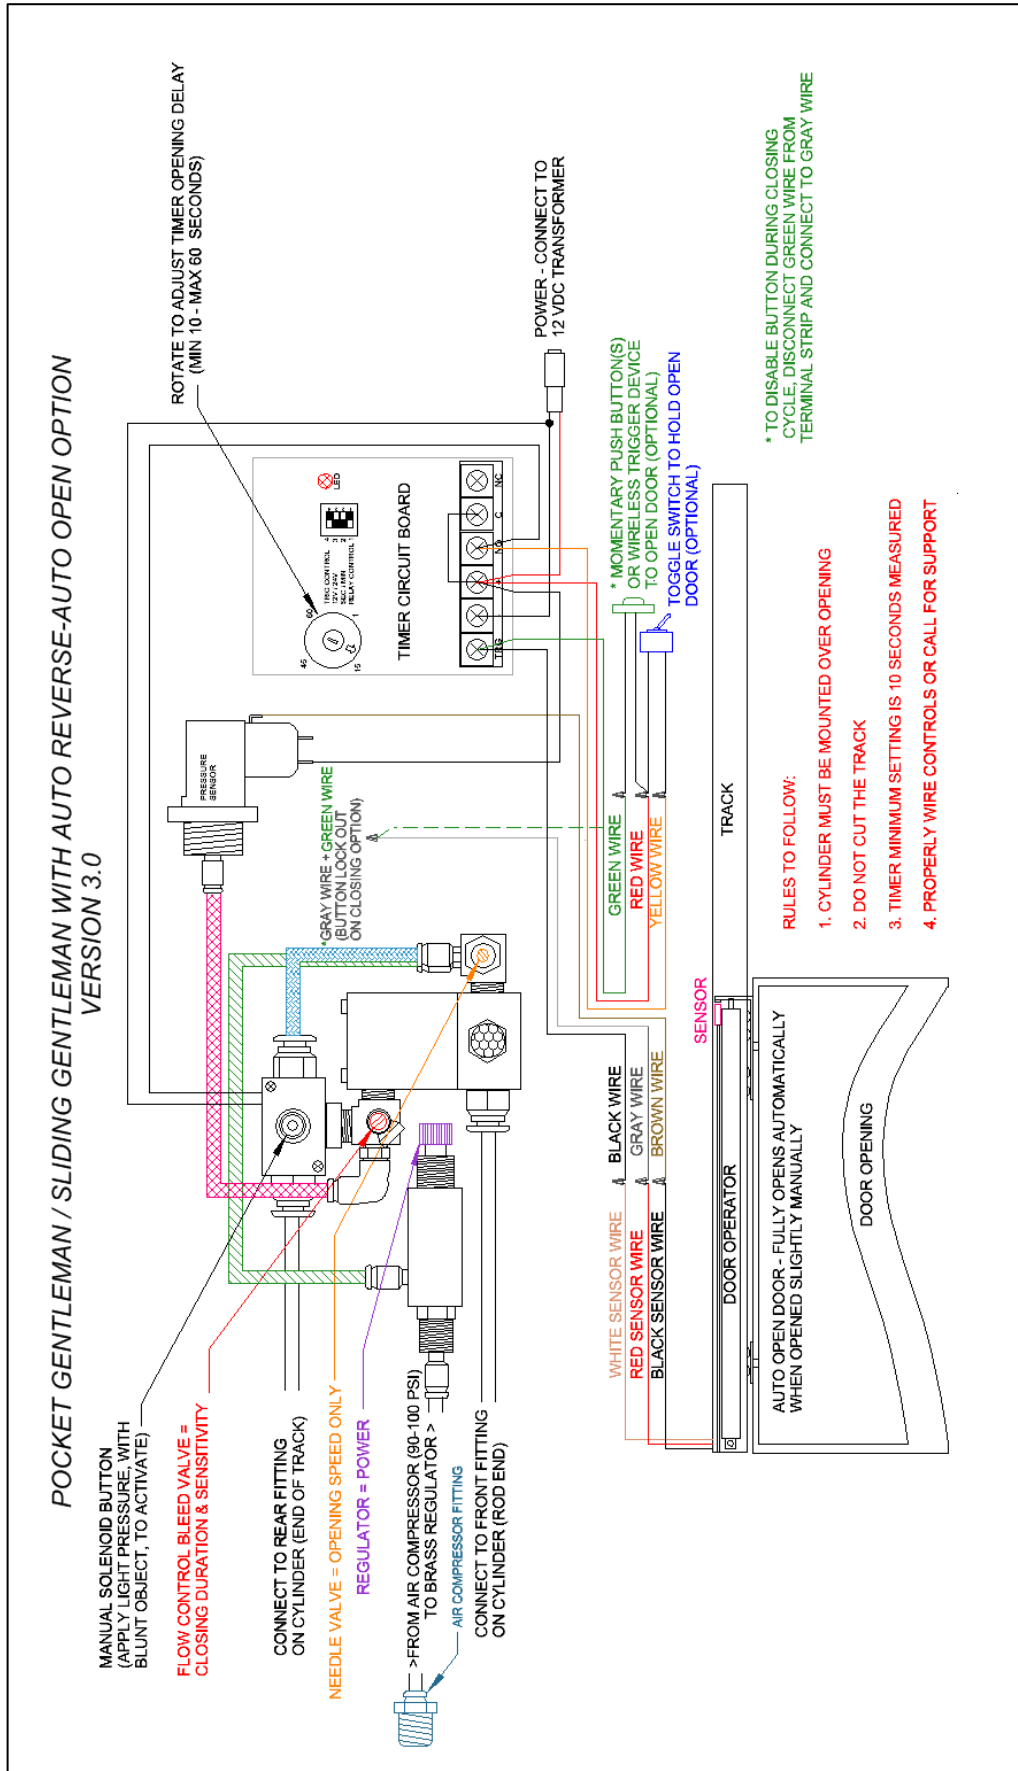

Figure 4
1. There are Six (6) colored wires (Figure 4) leading from the control box. The Operator Sensor must be connected correctly for proper operation. The connections are as follows:
At this point, the control box is wired so it will open the door automatically when it is slightly opened manually from its closed position. It will remain open for the duration the timer on the Timer Circuit Board (Figure 4) is set. The timer may be set between 10 to 60 seconds by turning the timer wheel. Minimum open time is 10 seconds measured; do not rely on the accuracy of the intervals printed around wheel on timer.
Optional Control Features: (Figure 4)
- Allow air to flow to control box regulator (Figure 4) unit and insert plug in transformer into an unswitched outlet.
1. Make sure remote control or switching system you are using is operational and the **Regulator (Figure 4)** has 90-100 PSI air supply coming into it. (Figure 2)
Open vent on **Flow Control Bleed Valve (Figure 4)** (turn CCW) and repeat steps 2 and 5 waiting about 5 seconds between steps. Repeat this procedure until door will not fully close (i.e. stops) before reaching fully closed position.
6. Open or close valve marked **Needle Valve (Figure 4)** to increase (CCW) or decrease (CW) opening speed only. Again, adjust to the 4 to 7 second range.